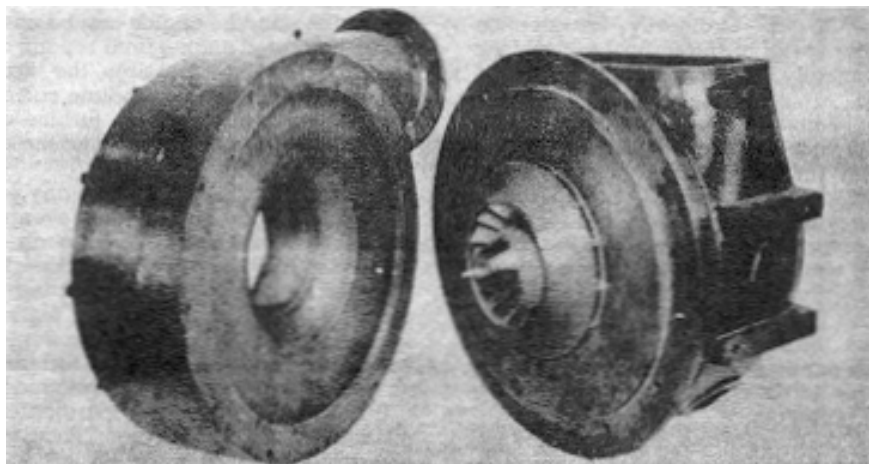

Fig. 5-Partially Dismantled View Showing Blower End Sub-Assembly with Vaneless Diffuser and Turbine and Intermediate Casing Assembled with Rotor.
2. Remove the intermediate casing to blower casing cap screws (28) on the L-20 and nuts (29) on the L-10, L-40 and L-60. Using these cap screws or blower inlet cap screws (38) as jacking screws in the threaded holes provided, break the joint. With the aid of the cast lug on the blower inlet and a sling, remove the blower casing assembly. (See Fig. 5.) This assembly must be pulled out along the rotational axis to avoid damaging the impeller shroud labyrinth seal rings.